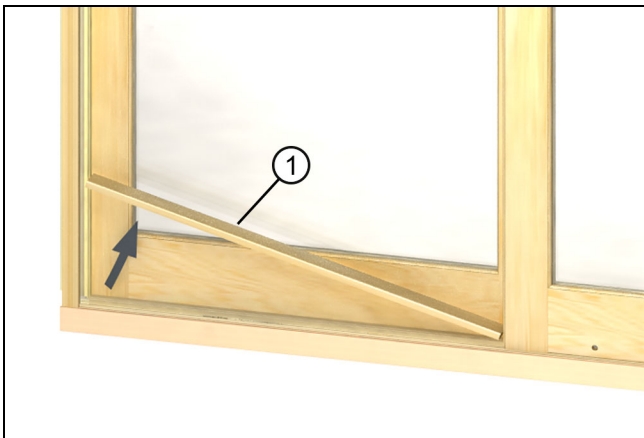

Figure 2
2. Remove shipping block from the sill between operator panel and stationary side jamb as shown in Figure 2. On doors greater than call number 9-0 width, remove shipping brace or sill shipping panel spacer.